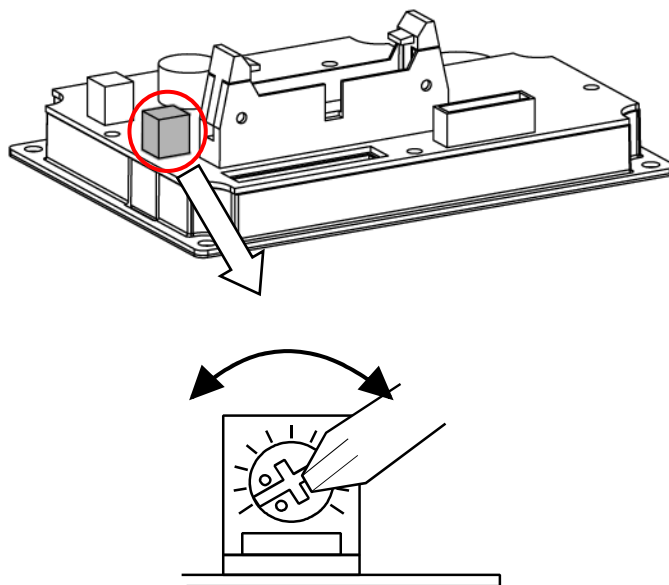

Figure 7-3 VRD ENABLE/DISABLE Step C
C) ENABLE/DISABLE the VRD function (see Figure 7-3).